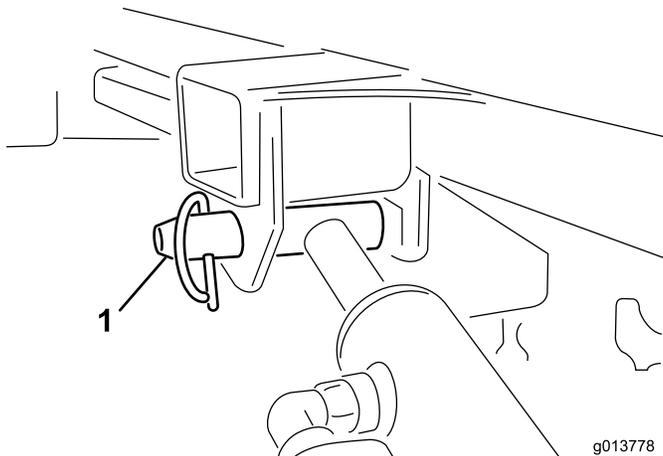

Figure 44
11. With one hand, hold the lift cylinder. With the other hand, remove the lift cylinder's locking pin (Figure 44).